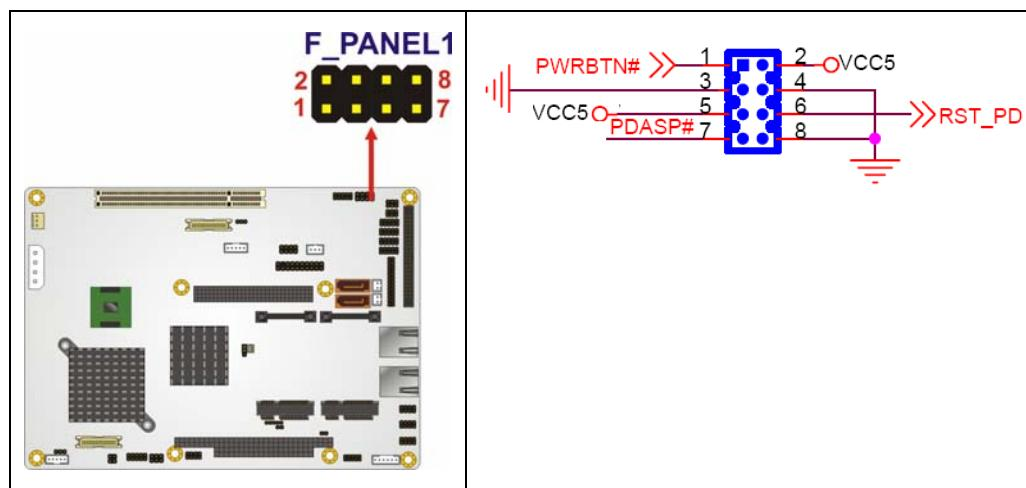

Figure 3-12: Front Panel Connector Pinout Locations (8-pin)
3.3.10 Front Panel Connector (8-pin)**CN Label:** F_PANEL1**CN Type:** 8-pin header (2x4)**CN Location:** See Figure 3-12**CN Pinouts:** See Table 3-12